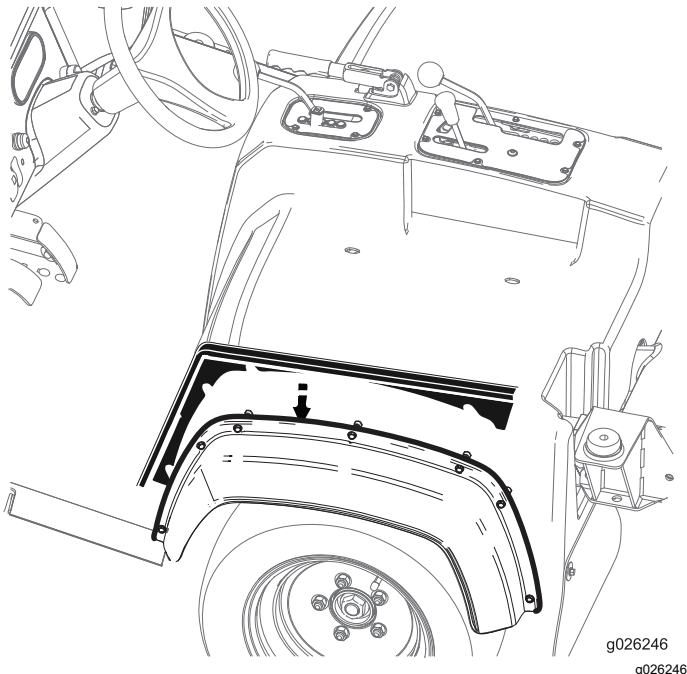

Figure 29
2. Slide the side-plate panels between the seat shroud and side fenders (Figure 29).